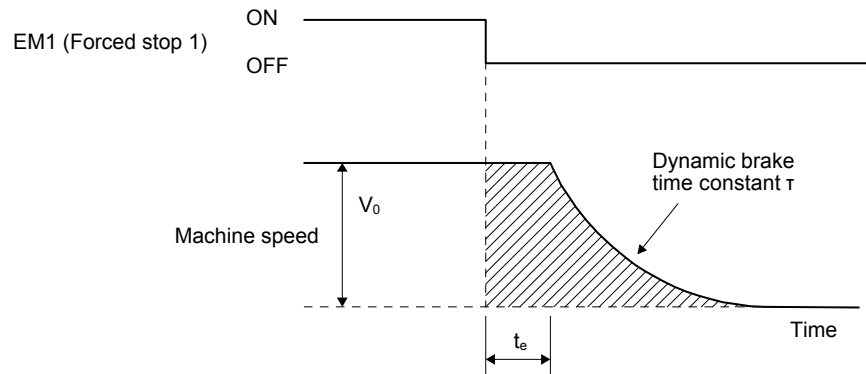

Fig. 10.3 Dynamic brake operation diagram
(1) Calculation of coasting distance
Fig. 10.3 shows the pattern in which the servo motor comes to a stop when the dynamic brake is operated. Use equation 10.2 to calculate an approximate coasting distance to a stop. The dynamic brake time constant τ varies with the servo motor and machine operation speeds. (Refer to (2) in this section.)